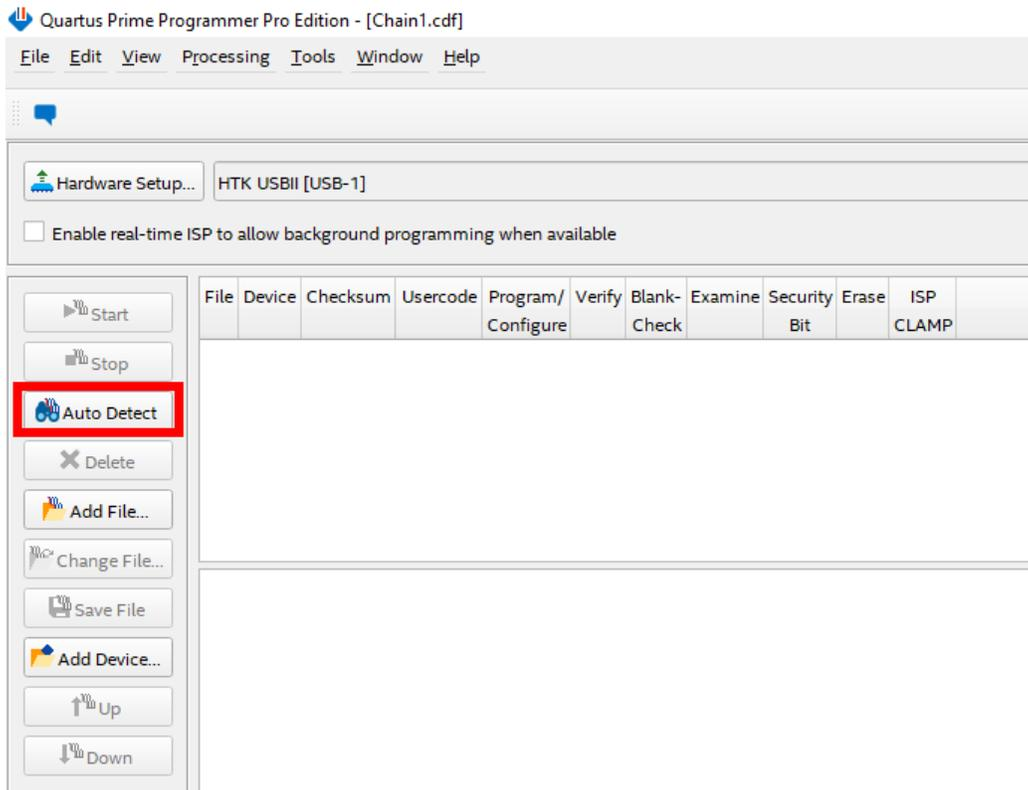

**Figure 4-6. View of the AFE77xxD-Params Display**
- In the "Load System Parameters" box, click the "Browse" to search for the AFE77xxD\_Config.json config file provided in *AG\_eSOM\_AFE77XX\_RF\_INTF\_DEMO\_Release\_v3\_3\_2023-04-25\software\x64\_64\utilities\AFE77xxDLatte\_v0p4* and open it. For a view of the "AFE77xxD-Params" display and how to load the file, see Figure 4-6 and Figure 4-7, respectively.